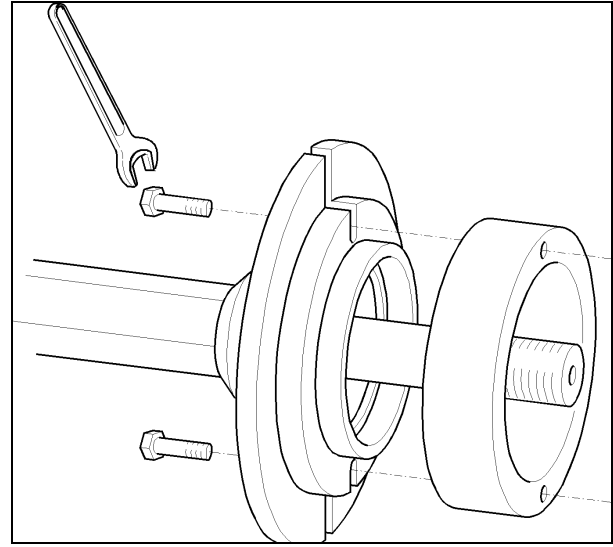

Fig.22
- A.** Mount the spacer ring onto the chuck (Fig.22).